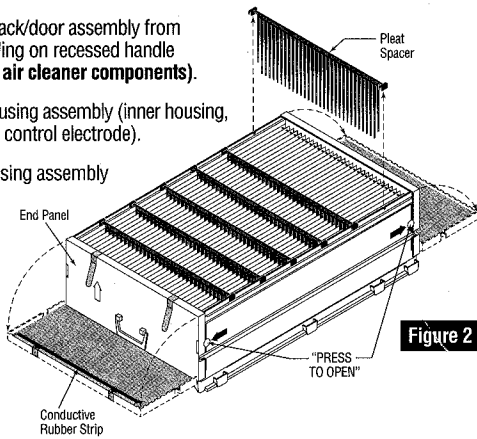

Figure 2
Step 3: Lay the inner housing assembly on a flat surface so pleat spacers are visible (see Figure 2).
Step 4: Remove pleat spacers by tilting and lifting both ends (see Figure 2).
Step 5: Open both end panels by pressing buttons labeled "Press to open" (see Figure 2).